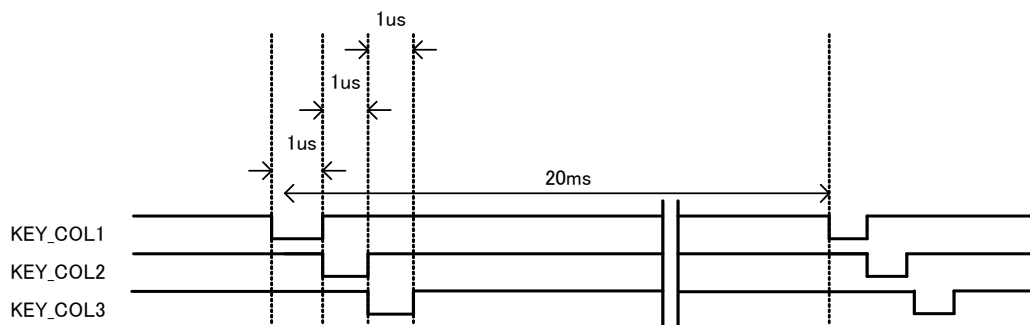

Figure 6.3.1 KEY SCAN Waveforms
- [1] KEY_COL1 to 3 output waveforms at timing as shown in Figure 6.3.1.